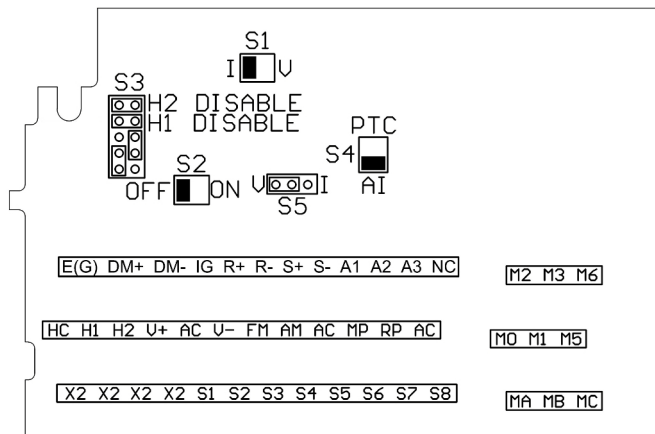

Figure 2: Control Board
1. Locate terminals: R+, R-, S+, S- on the control board, as shown in Figure 2.
Dip Switch S2 is located on the control board (see Figure 2). When S2 is on, a termination resistor (110 Ohms) is connected between S/R (+) and S/R (-).